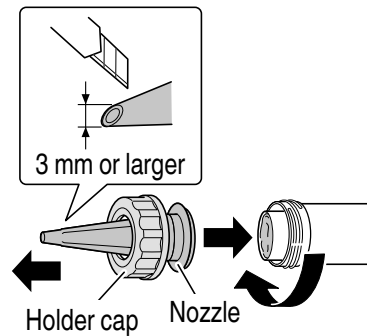

Fig. 21
Cut the tip of the nozzle to 3 mm or more before use. (Fig. 21)
- (2) Combine the holder cap and nozzle and attach them to the holder. Cut the tip of the nozzle to 3 mm or more before use. (Fig. 21)